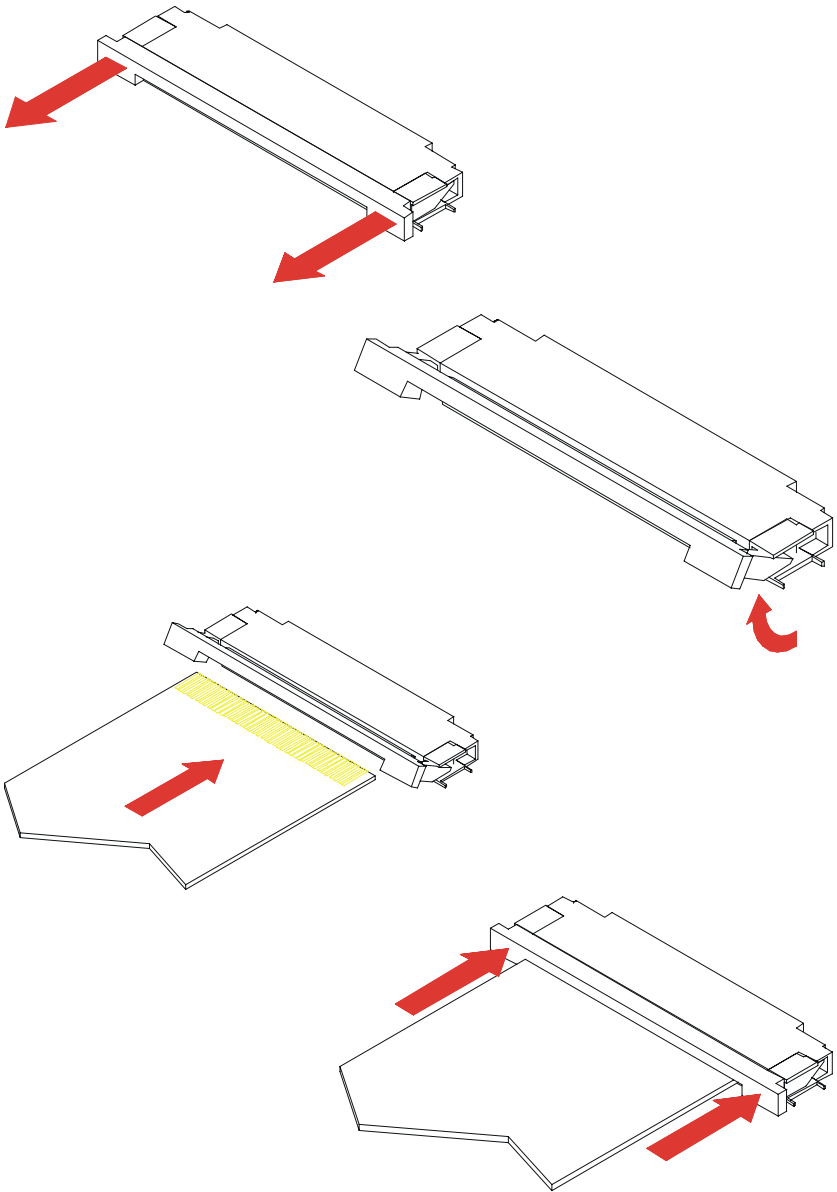

Figure 1-3: Installation of FPC cable
7. Pull out the FPC connector. Plug the FPC cable into the FPC connector, and then push in the FPC connector. (see Fig. 1-3). Connect the 40-pin FPC cable to J5 of the CPC-2420, and to the Mini Biscuit PC's FPC connector. The 50-pin FPC cable connects to J4 of the CPC-2420, and to VGA/LCD module's FPC connector.